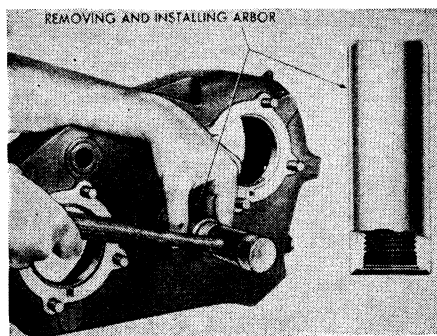

Fig. 8 Removing or installing transfer case idler gear shaft
15. Remove nut washer from front end of idler gear shaft. Screw arbor No. DD-582, if available, Fig. 8, on threaded end of idler shaft and drive shaft out of case. When arbor has completely entered idler gear, unscrew shaft, leaving arbor in the gear. This will prevent damage to adjusting shims. Remove idler and arbor from case through lower driven gear shaft opening. Remove arbor, bearings, shims and spacer.
When the idler gear and shaft bearings are properly adjusted, remove the nut, washer and spacer tool, if used. Lubricate the bearings. If arbor No. DD-852, Fig. 8, has been used during disassembly, install the gear and bearing assembly, with arbor in place, in the case with the
large gear toward the front. Then insert the idler shaft and screw it into the arbor. Drive the idler shaft into place, as shown in Fig. 8, unscrew arbor, install washer and nut, and lock nut in place with cotter pin. Install plate with new gasket over idler gear shaft opening in case.